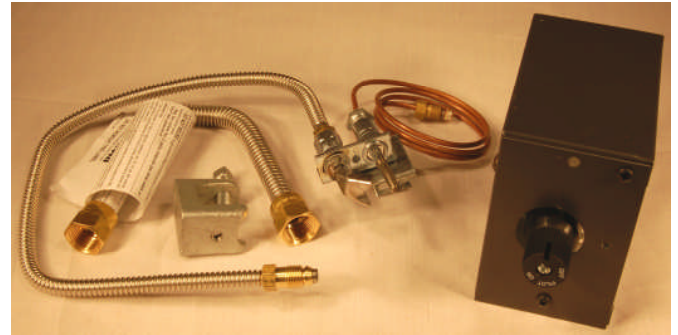

FIGURE 4 – FG-LMF VALVE / PILOT ASSEMBLY PARTS
- 1- Assemble the Valve / Pilot Kit. (SEE FIGURE 4, 5, & 6)